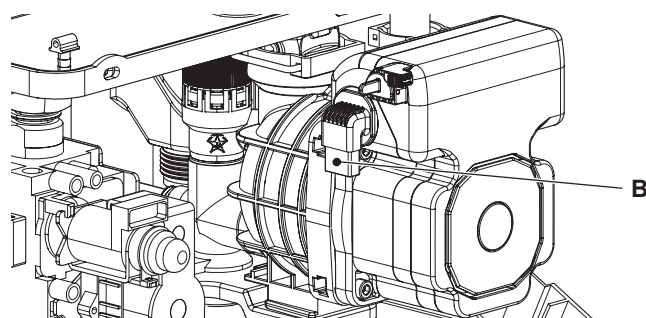

Figure 7.2
- 3 Disconnect the connector B (Figure 7.2).